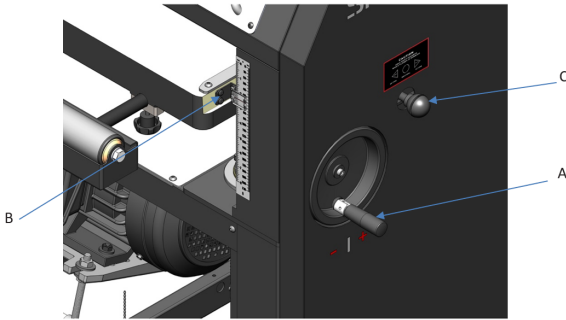

FIGURE 8: THICKNESS SCALE CALIBRATION
2. Use the Table Height Adjustment handle (Fig. 8, A) to raise the table until the infeed roller is approximately 1/16” above the calibrating board.
8. Loosen the two screws of the Thickness Scale pointer and adjust the pointer (Fig. 8, B) until it corresponds to the measured thickness and tighten the screws.
5. Adjust feed speed (Fig. 8, C) to desired speed (16 or 28 FPM), while planer is running.